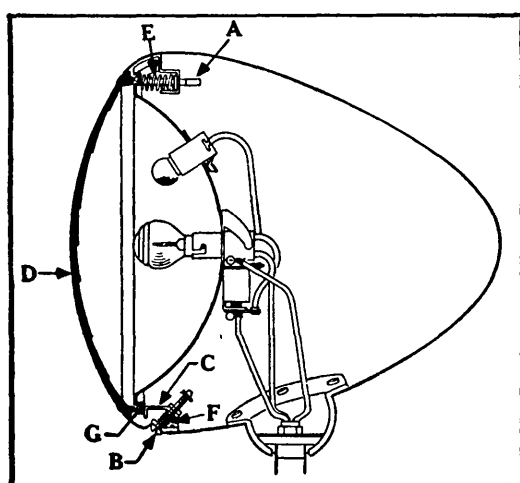

Figure 6.
4. Lock entire assembly in place by turning screw "B" to the right. Figure 6 shows the completed assembly ready for the road.